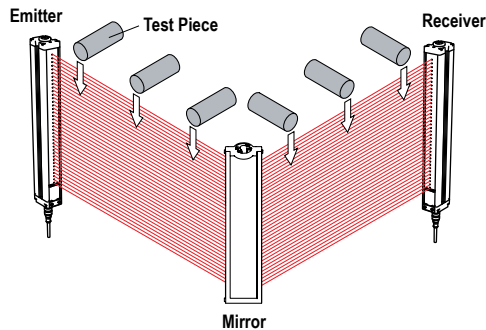

Figure 17. Trip Test with Corner Mirror
5. If mirrors are used in the application: Test the defined area on each leg of the sensing path (for example, emitter to mirror, between mirror and receiver, see Figure 17 on page 29).